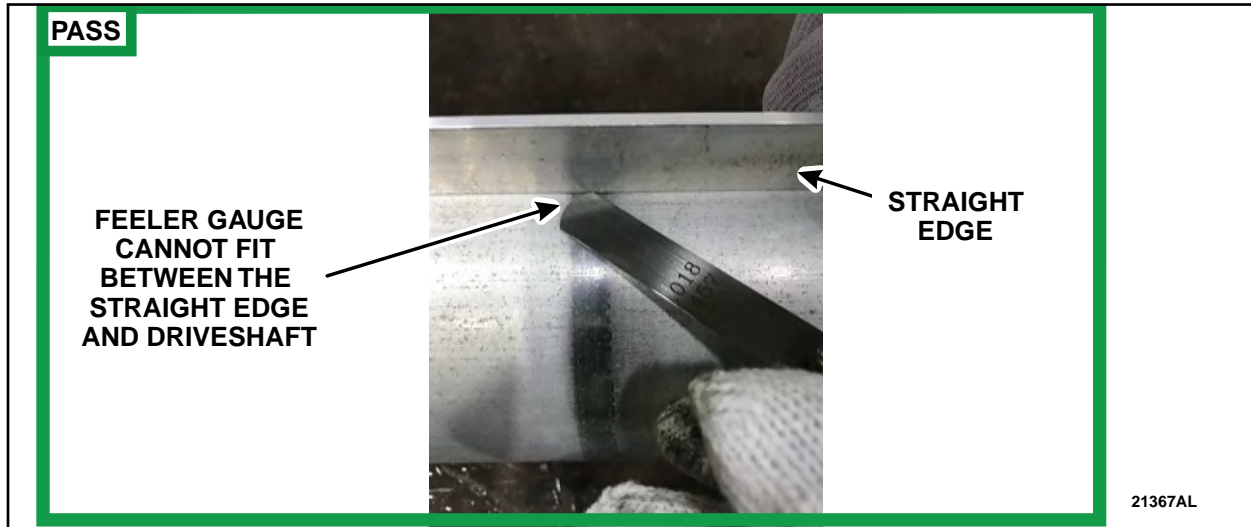

FIGURE 3
6. Place a straight edge along the driveshaft over the wear mark and attempt to fit a 0.018in (0.45mm) feeler gauge between the flat edge and the wear mark. Can the feeler gauge fit between the straight edge and anywhere along the wear mark? See Figures 3 and 4.